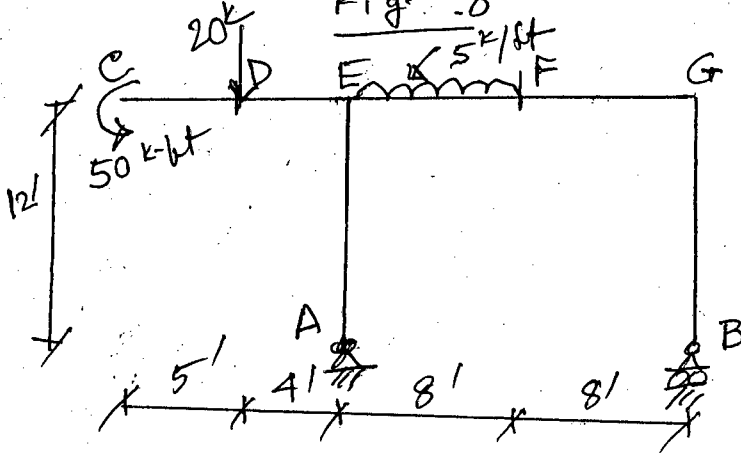

Fig. 10
11. Compute vertical deflection at "F" of the frame shown in Fig. 10. Given:  $A = 10 \text{ in}^2$ ,  $I = 300 \text{ in}^4$  for all members and  $E = 30,000 \text{ ksi}$ . (28)